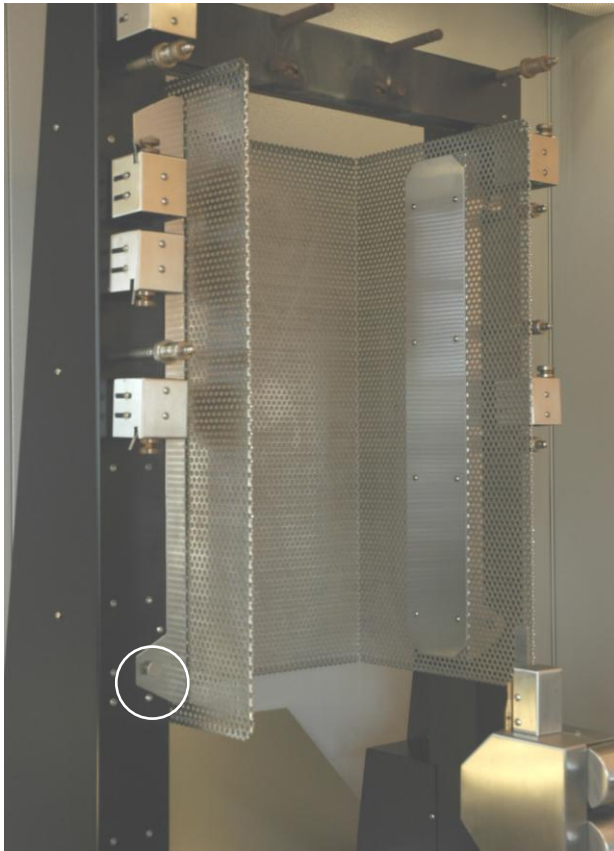

Figure 14: Fitting the Toy Cage (above)
- Using two (2) people, one on either side of the FlexiBurn, lift the Toy Cage over the burner arm and fit the four (4) holding screws, as shown in Figure 14.
- Secure the toy using one (1) or more skewers.